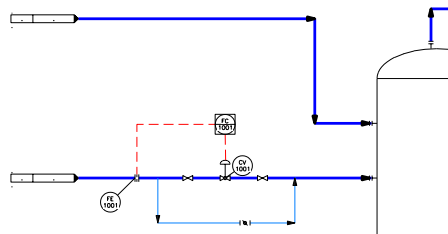

Figure 2-78 Off page connectors placed at the endpoints of the feed line and reflux line
3. Similarly, place off page connectors at the locations shown in Figures 2-78 and 2-79.